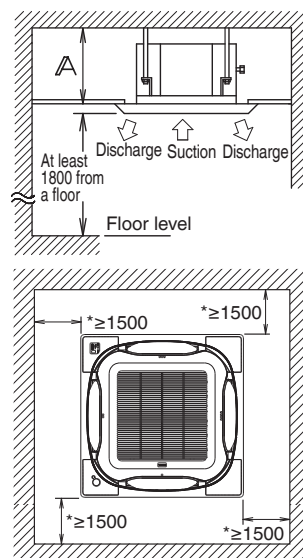

Fig. 1
(1) Select the installation location that meets the following conditions and get approval of the customer.
- Where a space sufficient for installation and service can be ensured. (Refer to Fig. 1)